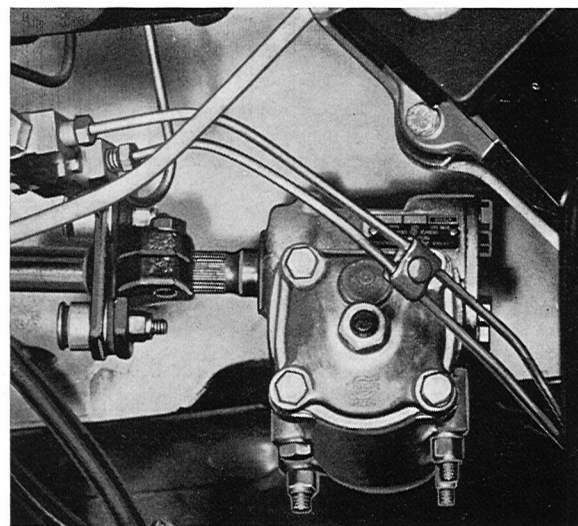

Fig. 6-53. Steering gear
2. Release the bolt (A, Fig. 6-53) at the lower flange. Remove the nuts (B) and push the lower part of the flange as far down as possible on the guide bolt.